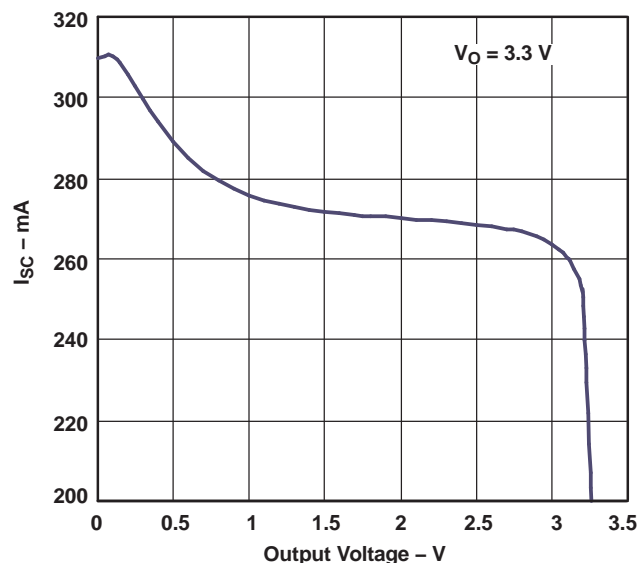

Figure 7.
(3) See Figure 7 in *Typical Performance Characteristics*.